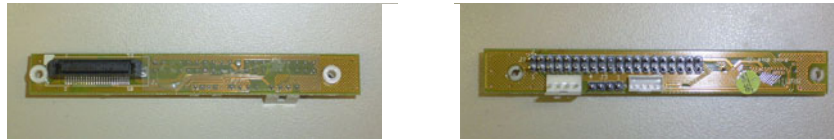

Figure 2.8 Converter for IDE slim-type optical disk drive
4. To install the IDE slim-type optical disk drive, please connect the small converter (see Figure 2.8) provided in the accessory box to the rear of the optical disk drive and fasten it by the two screws provided. Users can also purchase an optional SATA power wire for connecting a SATA slim-type ODD.